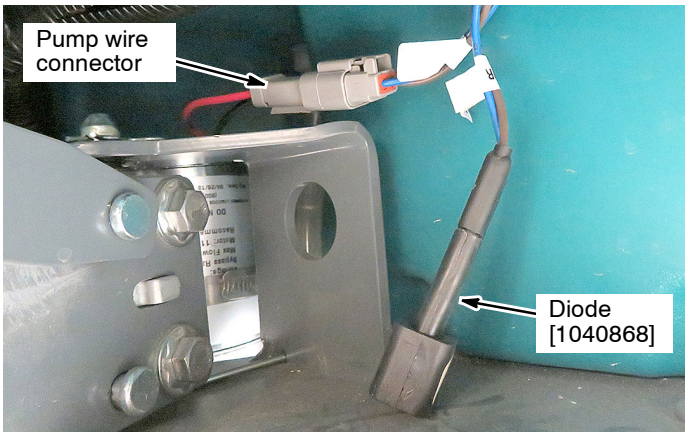

Fig. 24
23. Connect the ec-H2O pump wire connector to the pump and plug the diode [1040868] into the diode connector as shown (Figure 24).